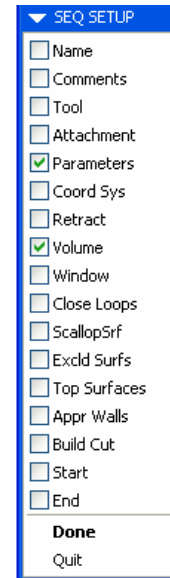

Figure 11: Sequence Setup Parameters
Step 3: Select the parameters shown in Figure 11 to define for this specific NC Sequence, select DONE.